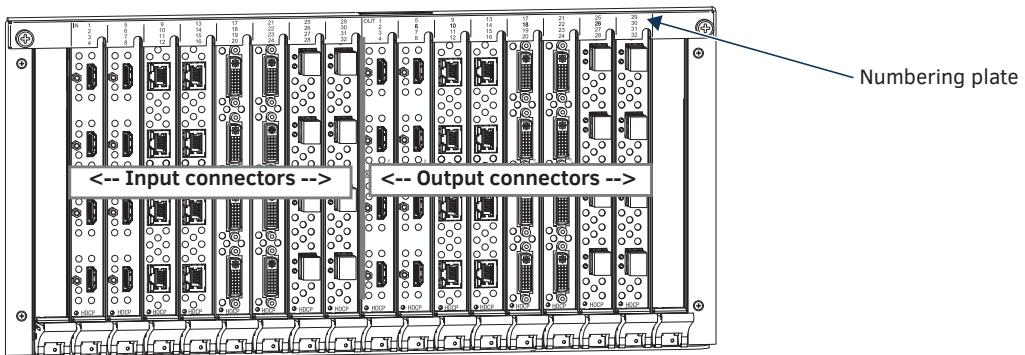

FIG. 21 Numbers on numbering plate indicate input and output board channels
- Enclosures have 16 vertical board slots (8 slots each for the input and the output boards, with 4 connectors per board), allowing for a maximum configuration of 32x32 (FIG. 21).